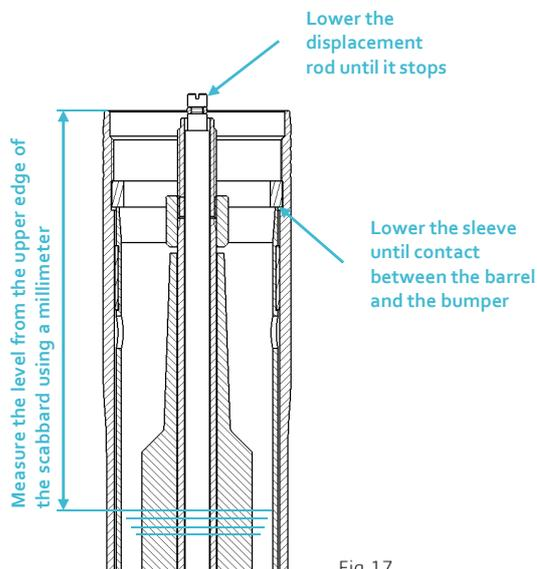

Fig.17
- Check the correct oil level by keeping the leg in a perfectly vertical position and following the indications in Fig.17.